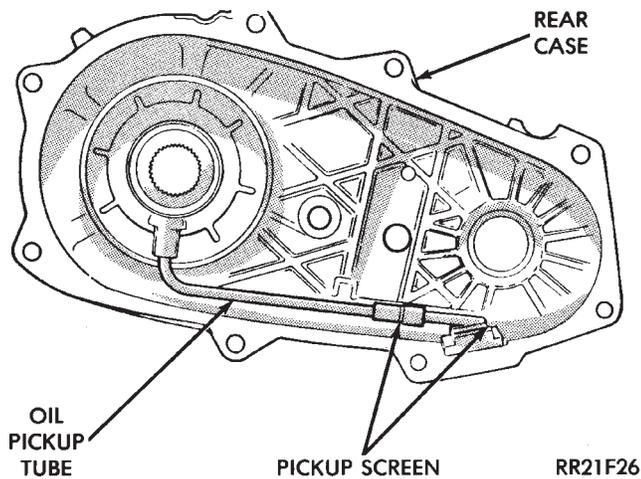

Fig. 66 Pickup Tube, Oil Screen And Pump Installation
(3) Prime oil pump by pouring transmission fluid into pump through pickup tube opening
(4) Insert pickup tube in oil pump. Then attach oil screen and connecting hose to pickup tube (Fig 66).
(5) Install assembled pump, pickup tube and screen in rear case. Be sure screen is seated in case slot as shown (Fig 66).
(6) Install magnet in front case pocket.